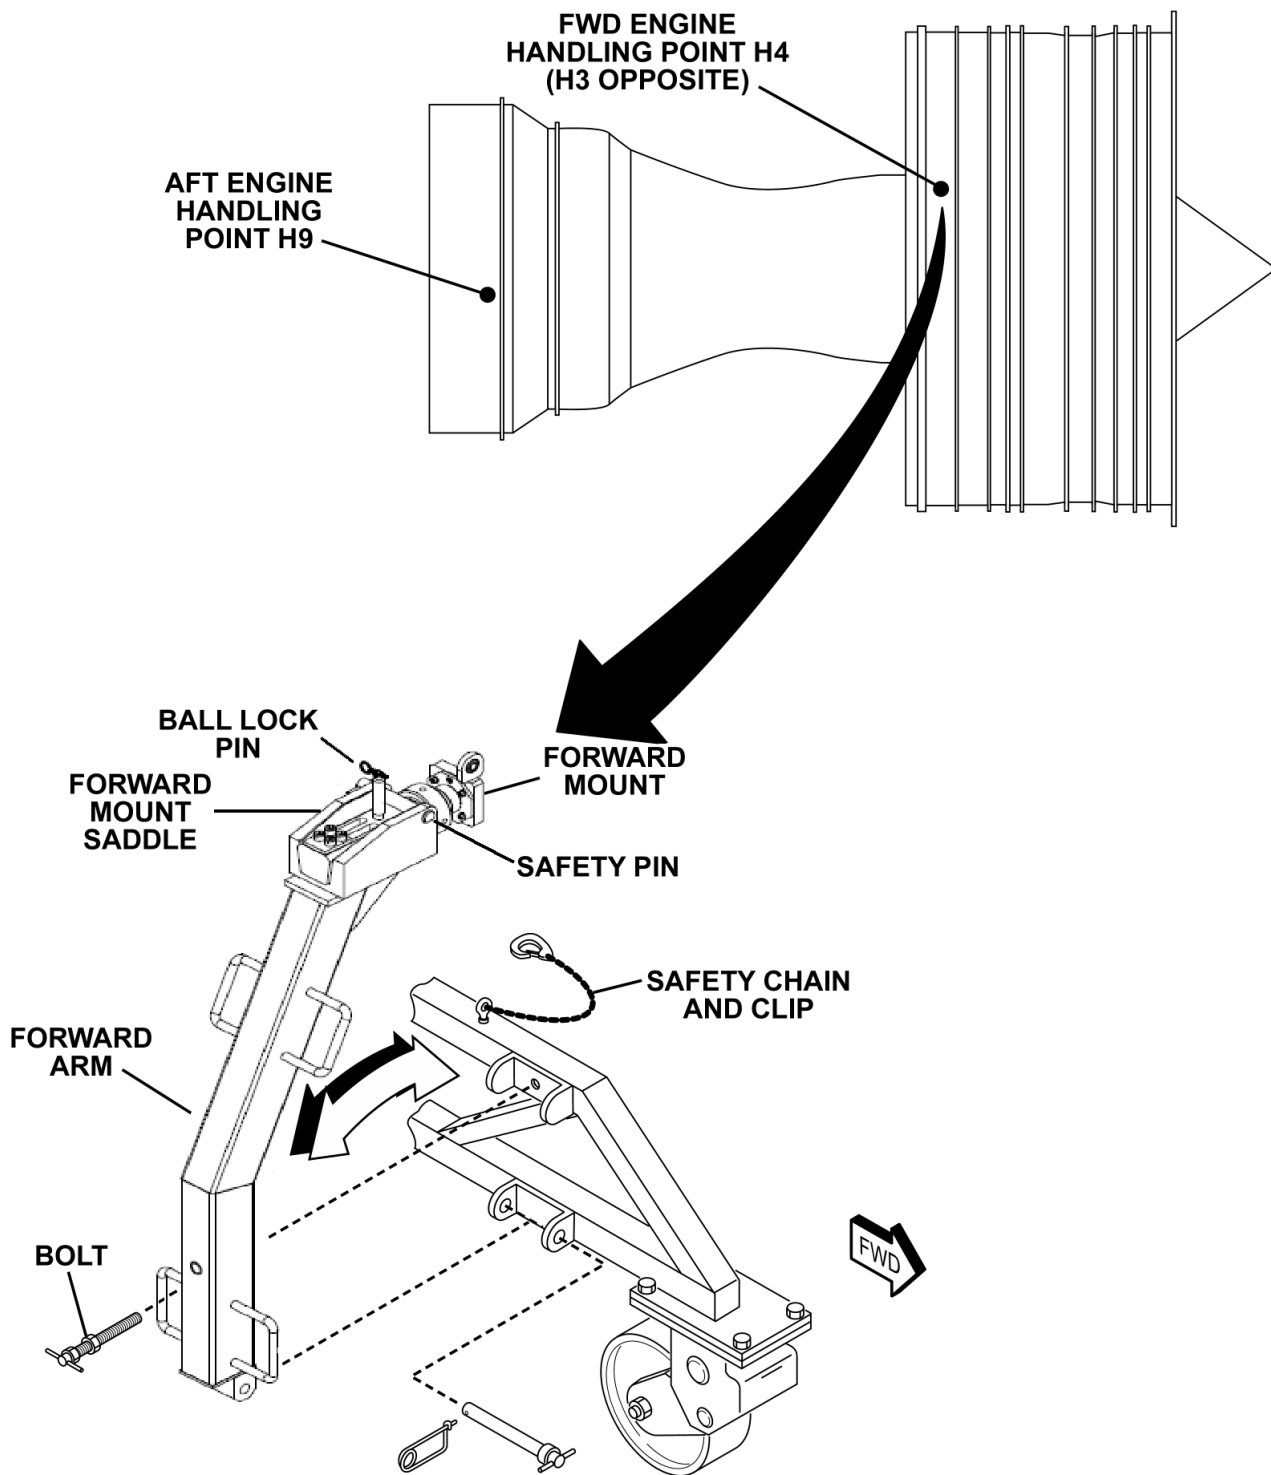

Figure 5.2-1. Forward Mount Installation.
- 8) Lower the engine until the forward mount trunnions are fully seated. Install both pins on each saddle and install the safety clips on the pins. See Figure 5.2-1.
- 11) Lower the engine until the forward mount trunnions are fully seated. Install both pins on each saddle and install the safety clips on the pins. See Figure 5.2-1.